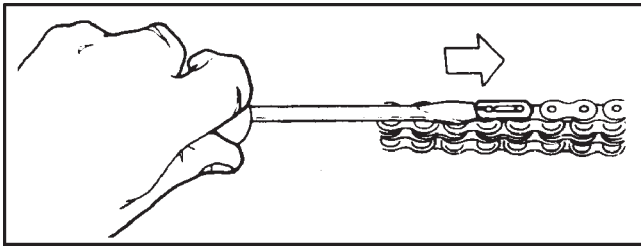
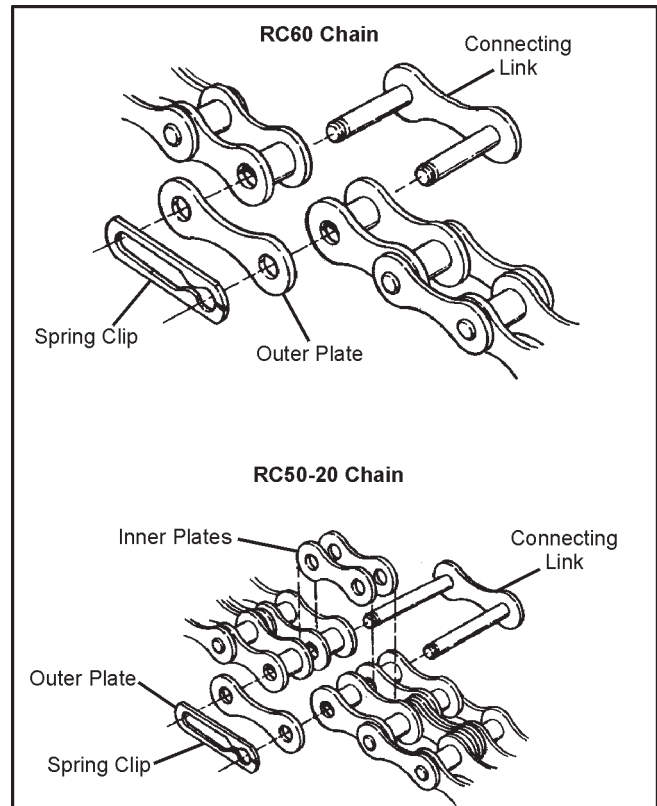

Figure 7-5. Removal of the spring clip.
Figure 7-6. Chain connection link components.
5. Remove the spring clip from the connecting link as shown in Figure 7-5. Remove the outside plate and tap out the connecting link. The inside plates will be released when the connecting link is removed (Figure 7-6).
2. Pull the ends of the chain together and insert the connecting link as shown in Figure 7-6 and 7-7. When connecting the RC50-2 chain, insert the inside plates before tapping the connecting link into position.
2. Remove the spring clip or cotter pins, depending on model, from the connecting link. Remove the outside plate and tap out the connecting link. On models that utilize a double 40 or 50 drive chain, as the connecting link is removed, the inside plates will be released (refer to Figure 7-6). Models with single 60 drive idler chains have no inside plates.
3. Replace the outside plate and spring clip as shown in Figure 7-5. Note: These models are secured with (2) cotter pins. Always use new cotter pins.